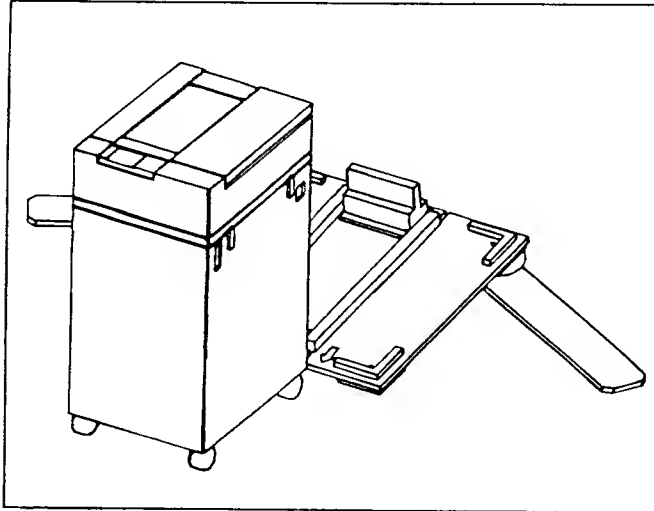

Figure 2-5. Step e.
- e. Slide the printer down by holding it from its front (Figure 2-5).